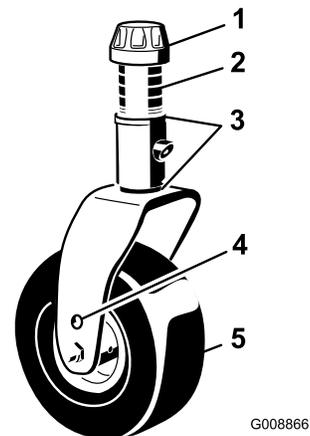

Figure 109
1. Remove the tensioning cap from the spindle shaft and slide the spindle out of the caster arm (Figure 109).